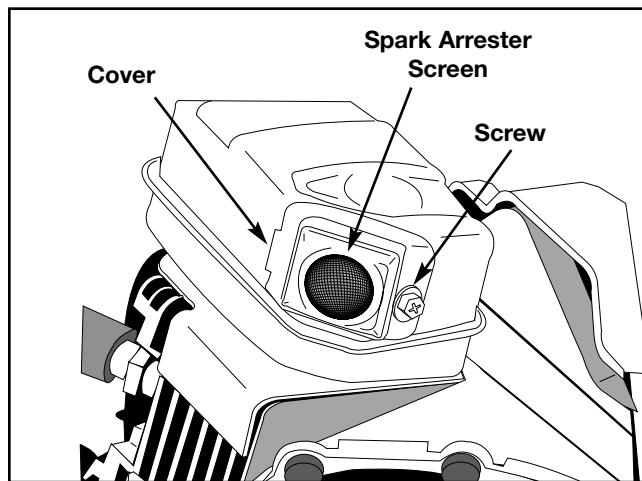

Fig. 44
1. Remove the screw (Fig. 44).
2. Remove the cover (Fig. 44).